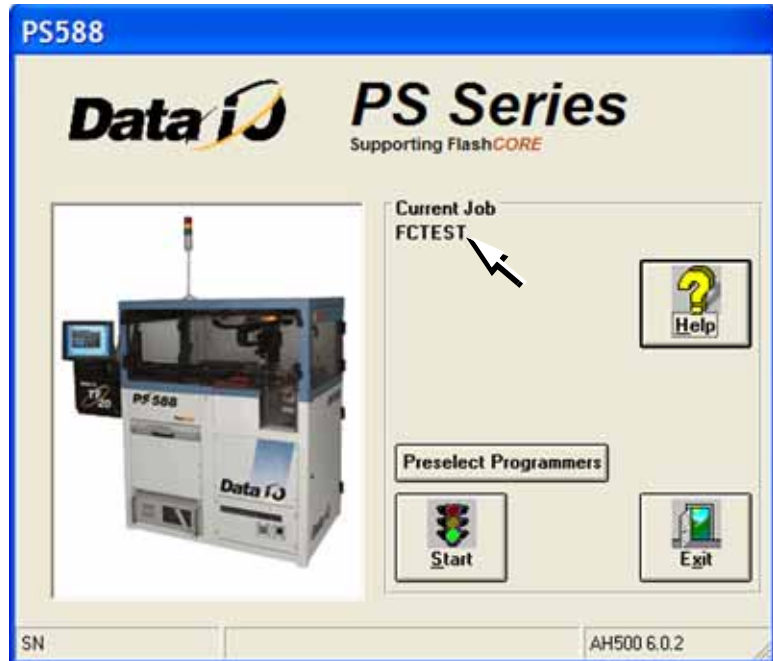

Figure 3-15: The AH500 main window opens with a job loaded and its name displayed (arrow). (PS588 shown.)
1. On the AH500-PS System main window, click Preselect Programmers. Refer to Figure 3-15.